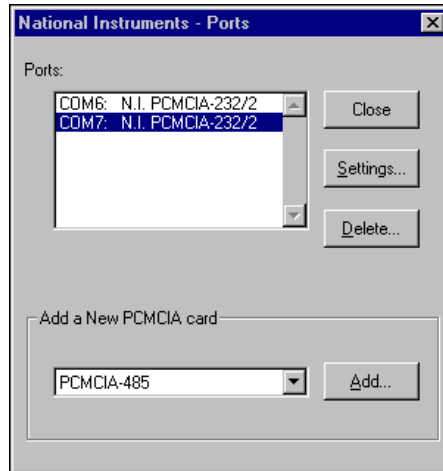

Figure C-9. Selecting an Interface to Uninstall
2. Select the port to remove from the list of ports as shown in Figure C-9.